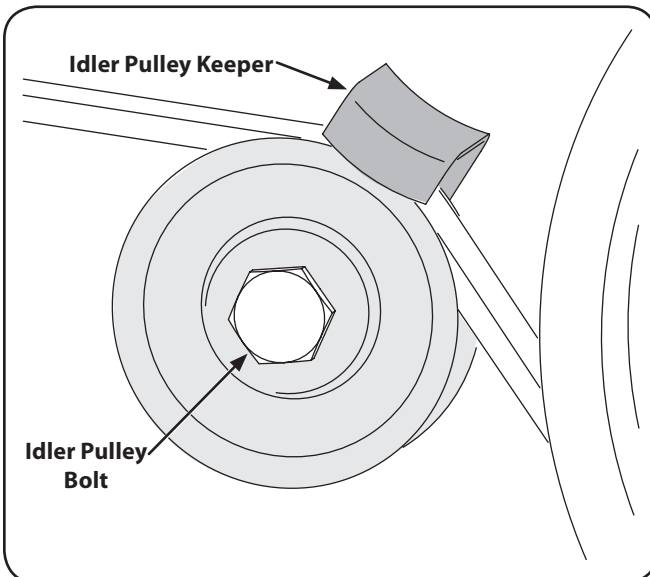

Figure 7-2
3. Remove the idler pulley bolt and move the belt from under the idler pulley keeper. See Figure 7-2.
NOTE: Upon reassembly, make certain that the idler pulley keeper is as shown in Figure 7-2. Take note of the notch on the bottom of the keeper and the alignment when reassembling with the replacement belt.